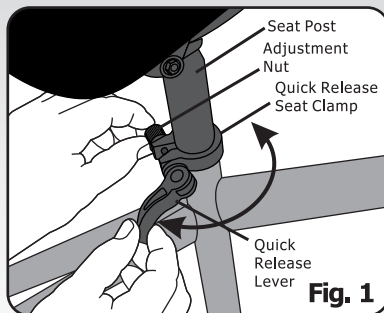

Fig. 1
1. When Quick Release is in the open position, see (**Fig. 1**) insert the seat post between the Maximum and Minimum Seat Post Marks.